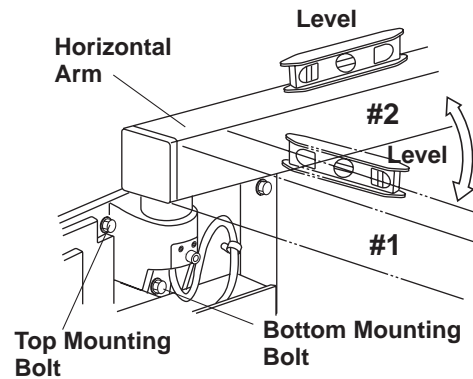

Fig.3-25 Horizontal Arm Adjustment
1. Incorrect leveling of the wall plate and wall bracket can cause arm drift. First, check leveling with horizontal arm in position #1. (Fig.3-25) If not correct, bracket must be adjusted by placing shims behind the wall plate.
2. Check leveling in position #2. if not correct, adjust Horizontal Arm as follows : (Fig.3-25)